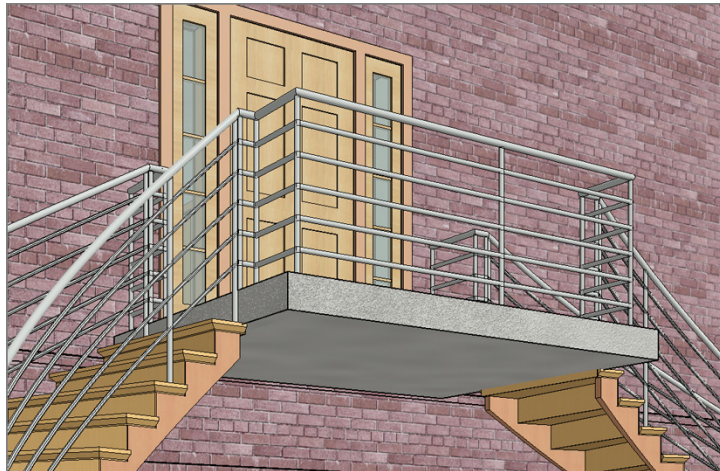

FIGURE 10.55: The completed landing
11. Add two more railings between the stairs and the brick wall. Your stairs should look like Figure 10.55.